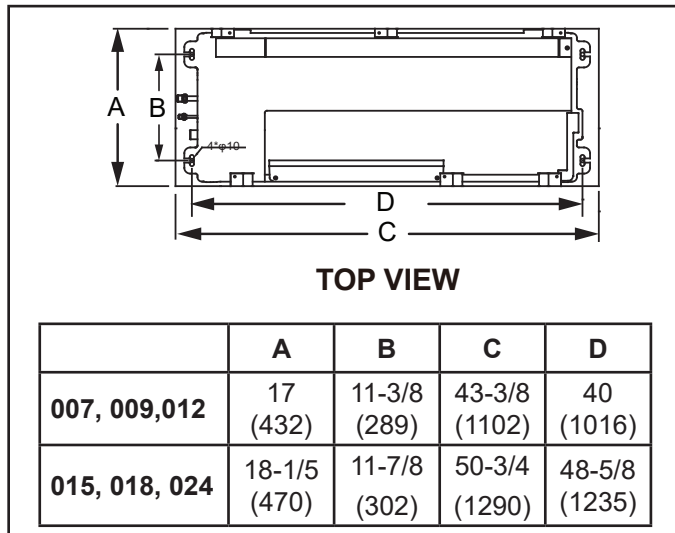

Figure 1. Ceiling Opening Dimensions
3. Use the unit as a template or use the provided paper template to mark the location of the hanging brackets on the floor. Use a plumb line or a laser to transfer the bracket positions to the main structural ceiling. See Figure 1 for ceiling opening size.
**NOTE** - Threaded rod (requirement of Lennox warranty program) is the **ONLY** acceptable method of suspending the unit; do not use chains or straps. See Figure 1.